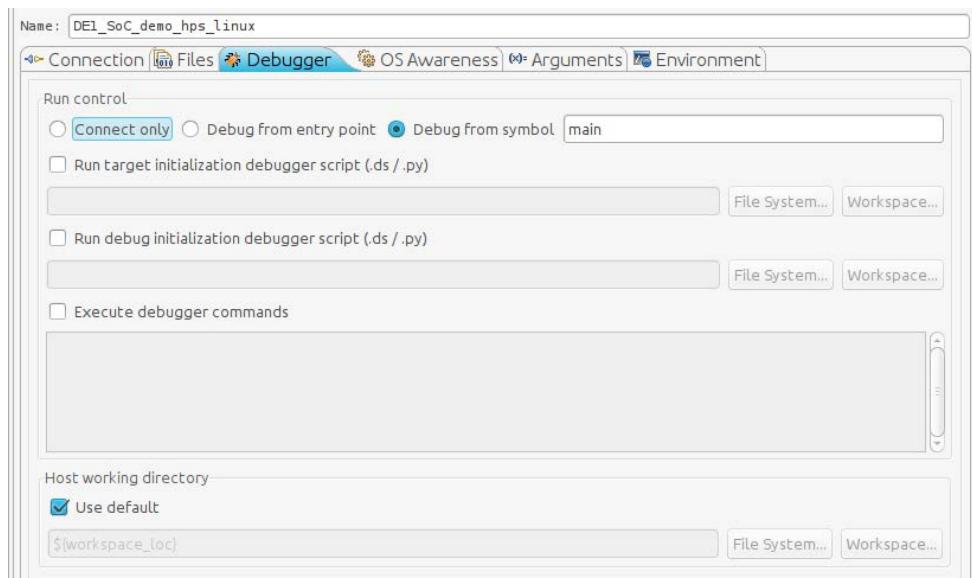

Figure 13-16. Debug Configuration "Debugger" Tab
84. Under the “Debugger” tab, make sure that “Debug from symbol” is selected and that “main” is the name of the symbol, as shown in Figure 13-16.